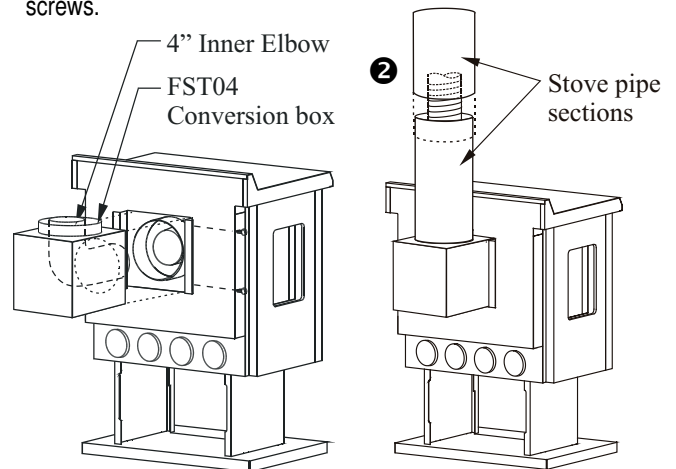

Figure 14. 1 Attaching the top vent conversion box. 2 Installing the stove pipe.
2. Attach the top vent conversion box (Part # FST04) to the stove's flue collar as shown in Figure 14. Secure it with four sheet metal screws.
4. Install the first stove pipe onto the conversion box by sliding it over the flex pipe (refer to Figure 14). Install a spacer spring around the flex liner. Secure the pipe with at least two 1/2" hex screws spaced approx. 3/4" from the joint. Slide the remaining vertical stove pipes into place, without fastening them. Install a spacer spring inside each stove pipe section.